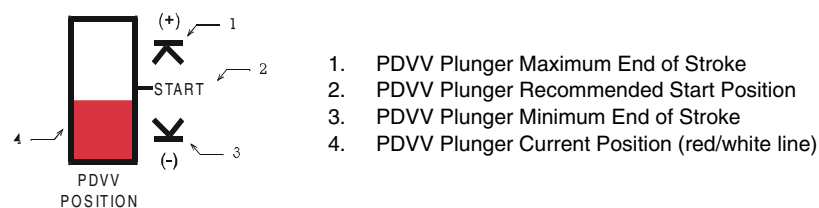
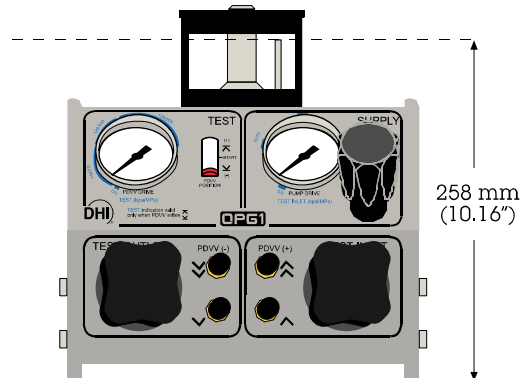

Figure 7. PDDV Position Indicator
Figure 8. Fluid Head Level When Vented, **INLET Valve** Open
The position of the PDVV plunger is indicated by the PDVV POSITION indicator (2). The RED index (Figure 7, Ref 4) on the indicator tracks the movement of the PDVV plunger. Minimum and maximum end of stroke positions (Figure 7, Refs 3 and 1) as well as a recommended start position (Figure 7, Ref 2) are indicated. The full stroke displacement of the PDVV plunger from maximum to minimum end of stroke is 1 cc (0.06 in.).
For the PDVV (+) valves (6) and PDVV (-) valves (7) to have an effect, the PDVV plunger must have stroke available. If the PDVV is at its end of stroke (Figure 7, Ref 1 or 3), the plunger cannot move to change pressure. The recommended PDVV START position (Figure 8, Ref 2) puts the plunger at the middle of its stroke so 50 % of PDVV displacement is available in either direction. The PDVV plunger can be positioned without affecting oil pressure using the \checkmark and \wedge valves when the OUTLET valve is open (oil pressure vented). The plunger is returned to minimum end of stroke position by a spring. The PDVV plunger is usually set to the desired position at the start of a calibration or test.
The fluid head reference level when the **OUTLET valve** is open is the top of the tank return overflow tube. This point is 258 mm (10.15 in.) above the surface on which OPG1 is sitting (see Figure 8).